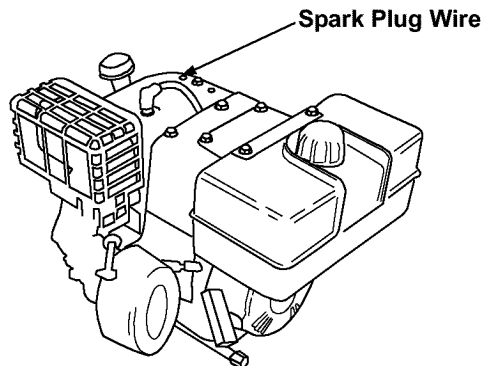

Figure 3
1. Pull the spark plug wire off of the spark plug. See Figure 3.